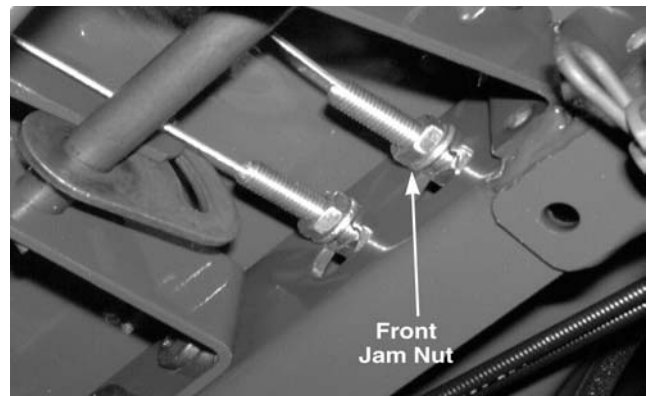

Figure 8-8.
6. By hand, tighten the front jam nut to the front of the front channel assembly. See Figure 8-8.
10. When the rider no longer rolls, hand tighten the front jam nut to the front of the front channel assembly. Refer to Figure 8-8.